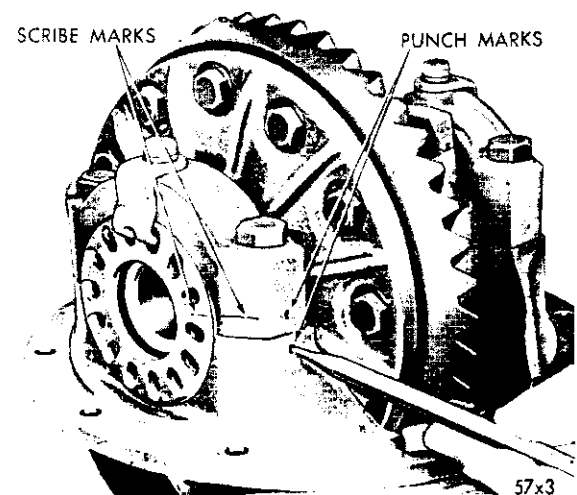

Fig. 9—Marking Bearing Caps and Adjusting Nuts
(2) Rotate the ring gear several complete revolutions while noting the total indicator reading. This reading must not exceed .005 inch runout. If the indicator reading exceeds the .005 inch runout, it will be necessary to take a second reading after the ring gear has been removed. This operation is covered during "Differential Disassembly". Remove the dial indicator.
(3) Apply identifying punch marks on the bearing supports of the differential carrier, differential bearing caps, and bearing adjusters for reassembly purposes (Fig. 9).
(4) Remove each of the differential bearing adjuster lock screws and locks.
(5) With a  $\frac{3}{4}$  inch socket wrench, loosen the bearing cap bolts (one on each side) and back off the bearing adjusters slightly with spanner wrench Tool C-406, to remove the differential case bearing preload. Remove the bearing cap bolts, caps and bearing adjusters.
(6) Remove the differential assembly with bearing cups. Make certain that each bearing cup remains with its respective bearing.